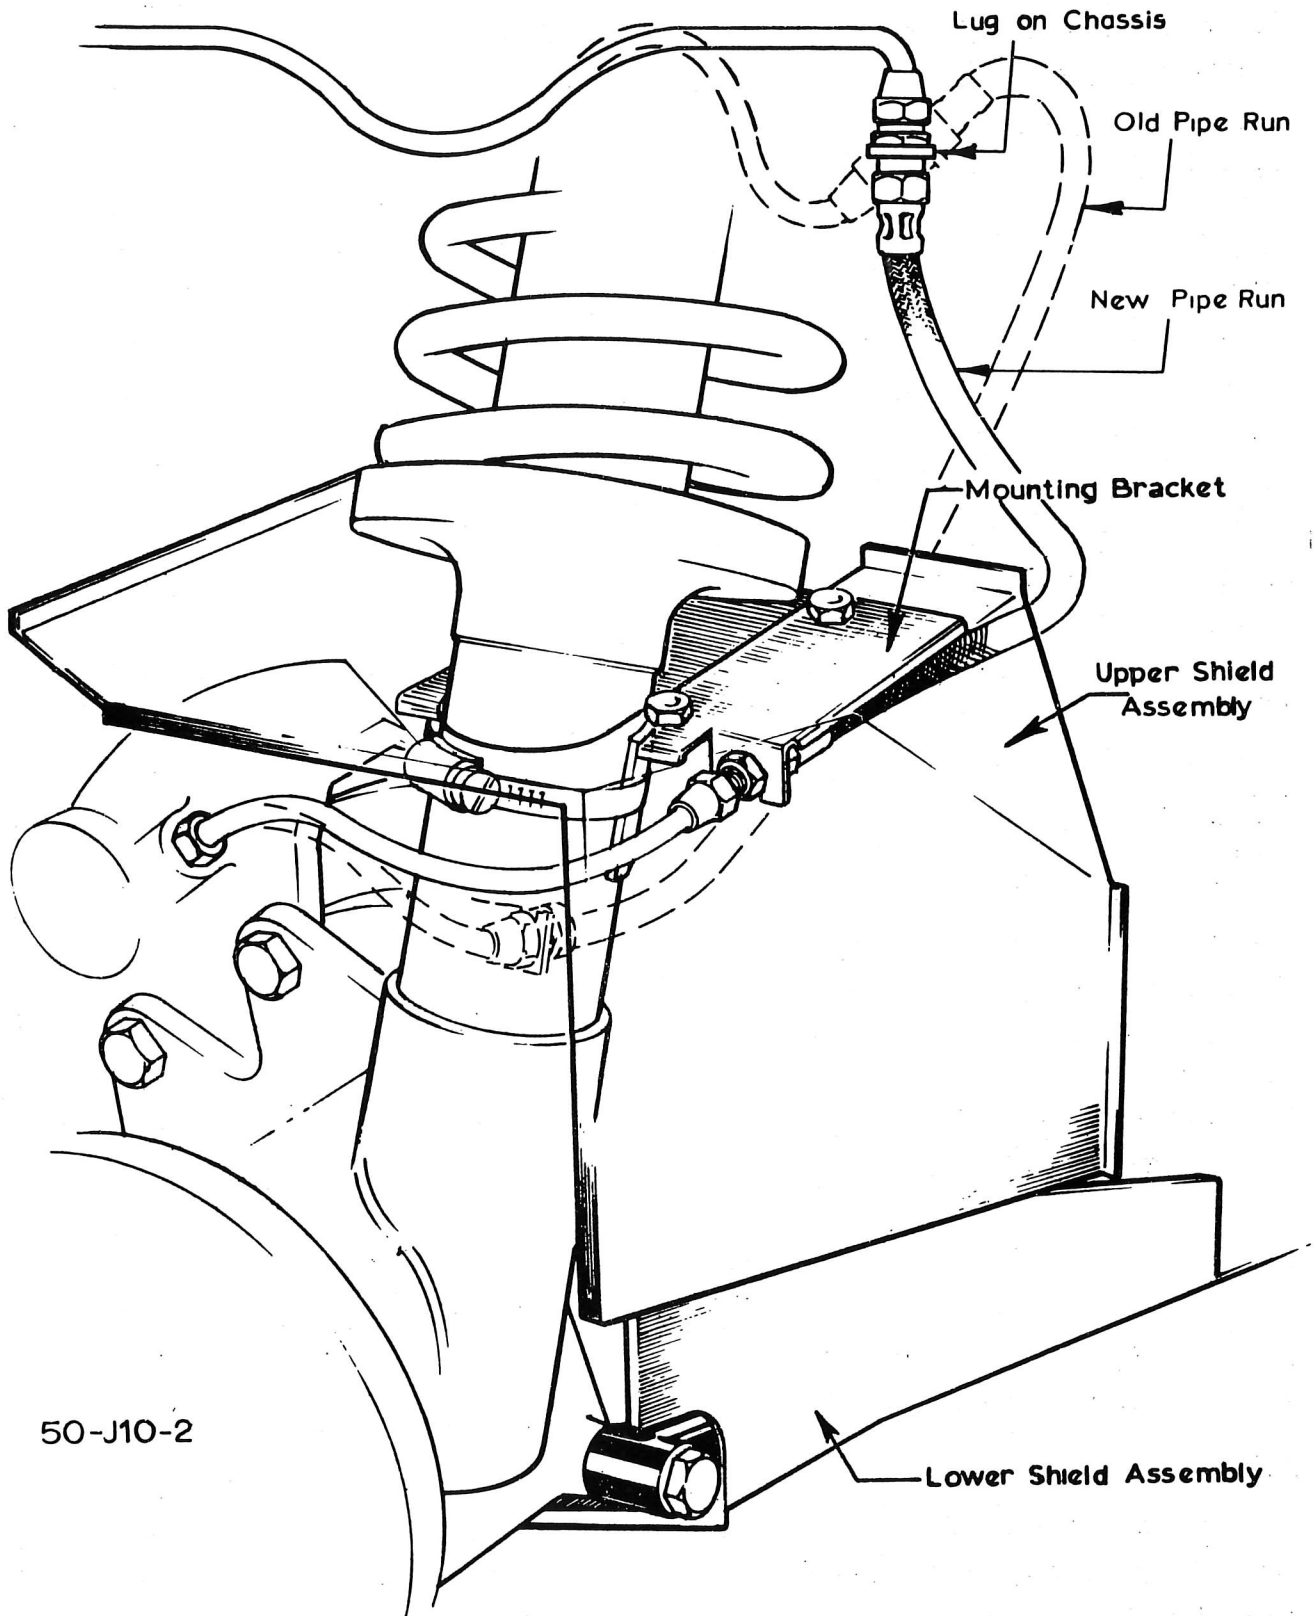

Fig. 10. REAR BRAKE DIRT SHIELDS
4. Fit new bundy pipes 50 J 6012 (30.5in. 77.4 cm.) and 50 J 6013 (14.5in. 36.8 cm.) from 3-way to L/H rear and R/H rear respectively chassis brackets. Ensure that bundy pipes cannot vibrate against any obstruction. Refit flexible hoses as illustrated in Fig.10.
8. Fit the 'P' clips to the wishbone as illustrated in Fig.10. Offer up the lower shields to the wishbones and secure the 'P' clips to the shields with the self-tapping screws and spire nuts.